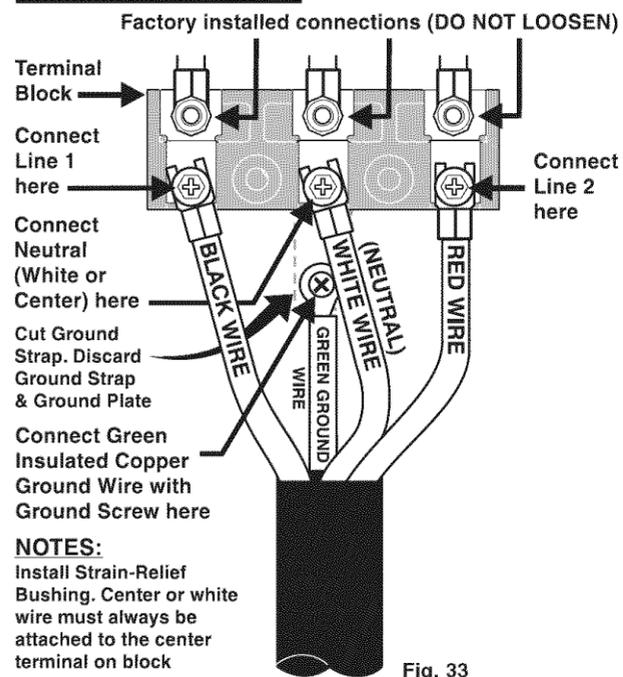

Fig. 33
B Wiring Instructions (4-Wire Connection - See Fig. 33).
4. Connect the ground wire (Green) lead with the eyelet to the frame of the appliance with the ground screw using the same hole in the frame where the ground screw was originally installed (See Fig. 33).